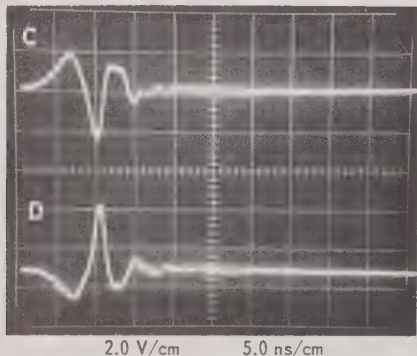

Figure DC-8. Sampling oscilloscope waveforms typical of servo-circuit blocking-oscillator performance.
The sampling oscilloscope is needed for the remainder of the pulse circuits. Figure DC-8 (A) shows the output of the blocking oscillator at pin 1, T102, (use Figure DC-10 to find the test point). Figure DC-8 (B) shows the waveform at the anode of CR106. CR106, a plug-in unit, is selected to give the stored-charge, snap-off characteristics necessary to speed up the blocking-oscillator pulse. Ordinarily this diode should not need to be replaced—the jacks are utilized principally for factory selection of the diodes.
The waveforms of the remainder of the pulse circuits are checked best when the Digit Oscillator is not running. To stop the oscillator, set the digit dial between steps. Observe the waveforms at TP102 and TP103; see Figure DC-8 (C and D). Diodes CR101 and CR102 must be removed for this test. They are plug-in units in the top circuit board (Figure DC-5). Note carefully the relative positions and polarizations of the diodes on the board prior to removal, so that they can be reinstalled exactly as they were originally.